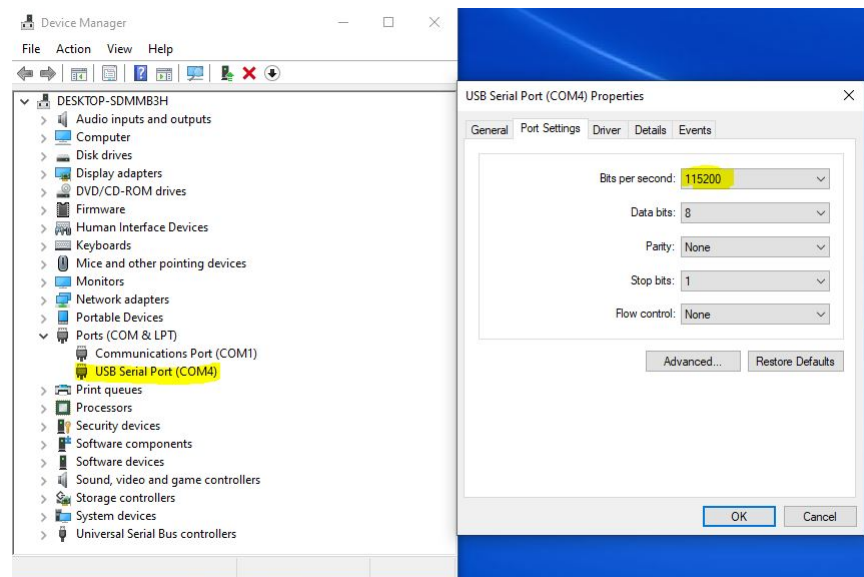

Figure 8: Enter the baud rate of 115200 in DoseControl. Check to make sure this matches the value in Device Manager
- ii. Enter 115200 for the baud rate. In the PC device manager, right-click the COM port for the laser micrometer and select “. See *Figure 8*.